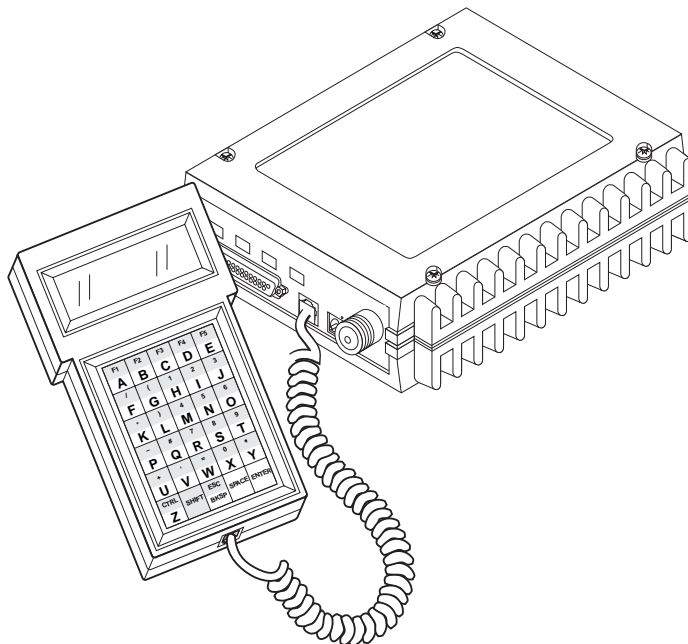

Figure 10. Hand-held terminal connected to the transceiver
1. Connect the HHT's coiled cord to the DIAGNOSTICS (RJ-11) jack on the radio as shown in Figure 10. This automatically places the radio into the control and programming mode.